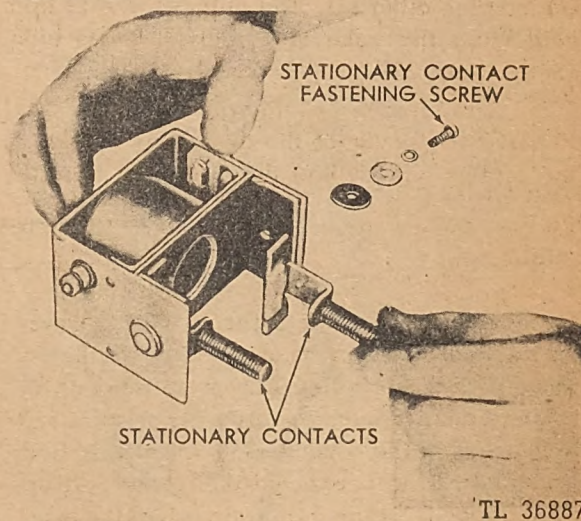

Fig. 235. Removing or Installing Stationary Contacts
(7) If, because of excessive pitting or burning of the contacts, it is found necessary to resurface the faces or install a new contactor, the plunger may be unscrewed from the rod and the contactor removed. The resurfacing should be done on a grinder or with emery cloth held on a file. Exercise care to assure flat surface being maintained on the contact faces. A file may be used to remove slight surface irregularities or burning.
(8) Take out the round head screws on the sides to remove the stationary contacts. (See Figure 235.) These contacts may be resurfaced, if necessary, in the same manner as the movable contacts.
*n. Inspection and Repairs.* (1) Examine all insulators for burning or cracking and provisions made for removal.
*o. Testing Magnetic Switch Coil.* (1) Test the coil for shorts by obtaining the resistance. The value should be within the prescribed limits of  $2.25 \pm .1$  ohms. Before reassembly, inspect the insulation carefully for any signs of overheating or damage.
(2) Check all insulators for breaks or cracks.
(3) Inspect and smooth off the contact surfaces.
*p. Reassembly of Magnetic Switch.* (1) Install the stationary contacts and insert the round-headed screws to secure the contacts on the base assembly. Be sure to use insulator washers, guard washers and lockwashers. (See Figure 235.)